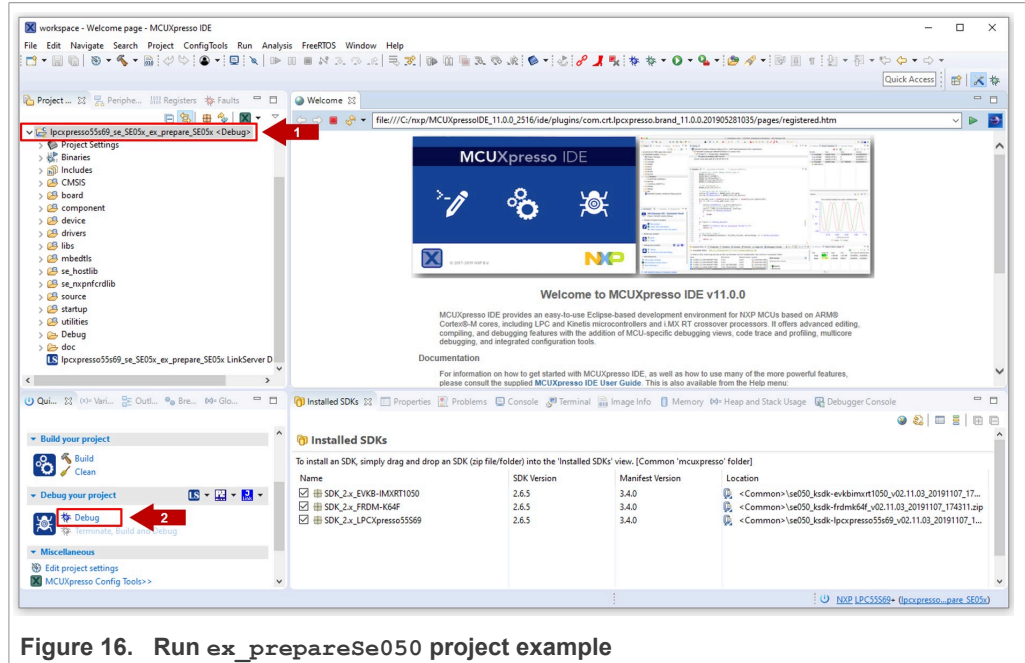

Figure 16. Run ex\_prepareSe050 project example
- Go to the MCUXpresso Quickstart Panel and click *Debug* button, wait a few seconds until the project executes and click on *Resume* as shown in Figure 16